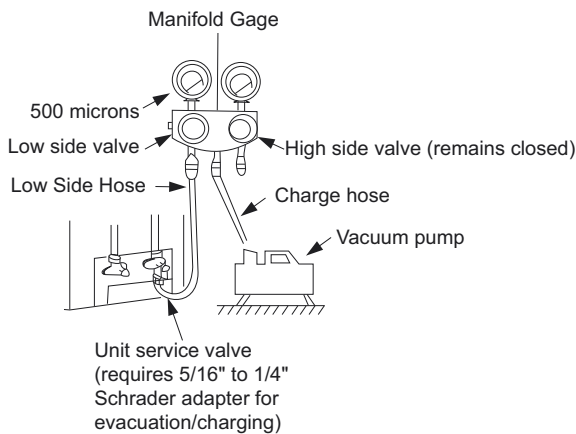

Fig. 8 – Manifold
3. Fully open the low side of manifold gage (see Fig. 8).